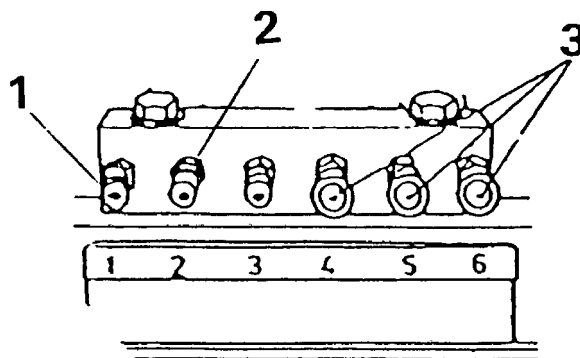

Fig. 3.2. Diagnostic Center – Tow and Pressure Check Ports
To avoid the possibility of power train damage, limit towing to a distance of 0.8 km at speeds less than 1.6 km/h. The brakes on this machine are spring applied automatically when the engine is stopped or the steering hydraulic system fails, and can only be released hydraulically. The diagnostic center (Fig. 3.2) has a check valves R_B and L_B for externally applying hydraulic pressure to the LH and RH brake spools to release them prior to towing per below specified procedure.
3. Pump sufficient grease into one of the valve (1 or 2 in Fig. 3.2.) to release the brakes. Connected pressure gauge should show the pressure 830 - 1030 kPa. The amount of grease required depends on the amount of pressure dissipation in the system.